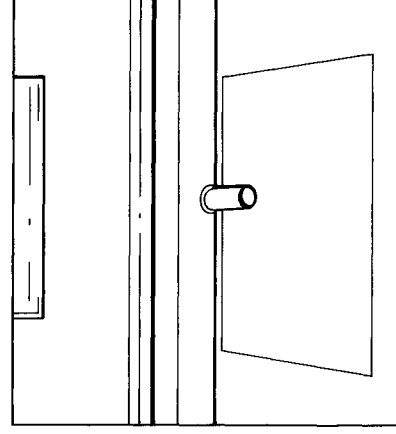

Fig 7
3. Remove the drain cap and fit the drain. Place a shallow container beneath the drain to catch the defrosted water (see Fig 7).